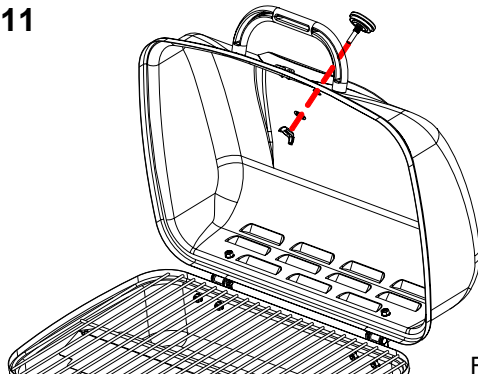

Fig. 11
*Procedure:* Place the Heat Indicator into the hole on the lid and fasten in place with the washer and wing nut as shown in Fig. 11.